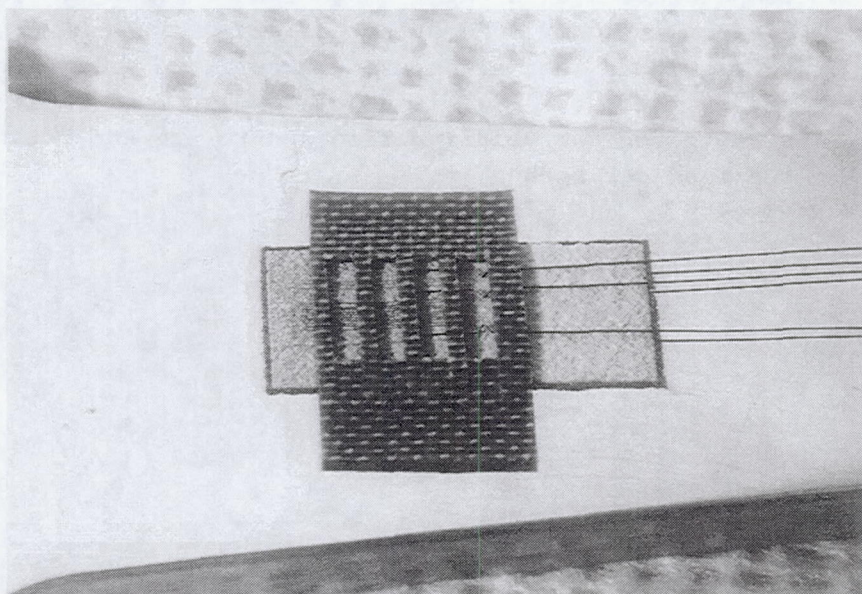

FIGURE 7. Photo of gage in position on test bar.
- Figure 7. Photo of gage in position on test bar.